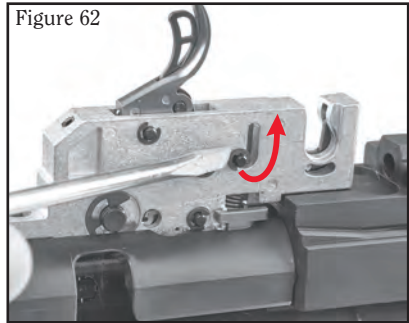

Figure 62
2. Release the cocking guide spring by depressing the pin and allowing it to move into the long portion of the "J" shaped slot. (See Figure 62.)